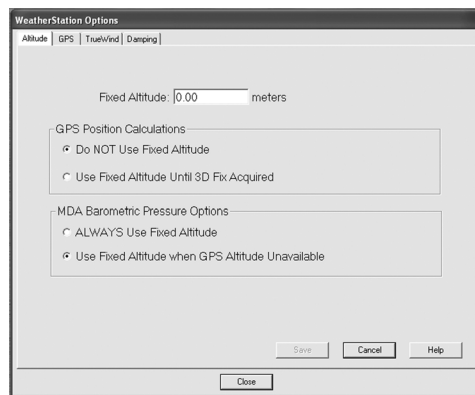

Figure 32. Altitude options window
A fixed altitude setting can be used to calculate a more accurate GPS position when it is operating in the 2D mode and a more accurate barometric pressure reading (see Figure 32). In the Fixed Altitude field, enter an altitude relative to sea level from 0 to 10000.00 to the nearest 0.01 meter.
**GPS Position Calculations**—To calculate a more accurate 2D fix, an altitude offset can be programmed into the sensor (see Figure 32). Enter an altitude in the Fixed Altitude field. Select “Use Fixed Altitude until 3D fix acquired.”
**MDA Barometric Pressure Options**—You can enable correcting for altitude when the altitude is not available due to the GPS not having a 3D fix (see Figure 32). Enter an altitude in the Fixed Altitude field. Select “Use Fixed Altitude when GPS altitude unavailable.”